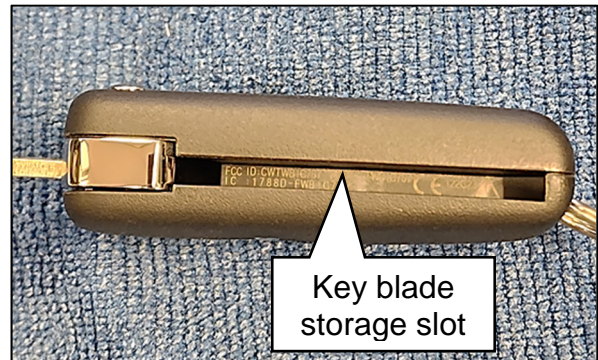

Figure 2
2. Orient the key so that the key blade storage slot is visible, as shown in Figure 2.